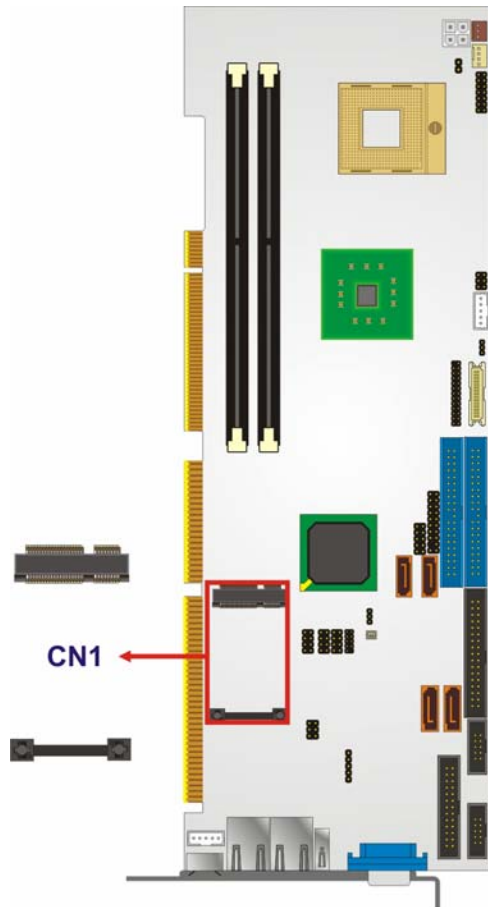

Figure 4-16: PCI Express Mini Card Connector Location
- CN Location:** See **Figure 4-16**